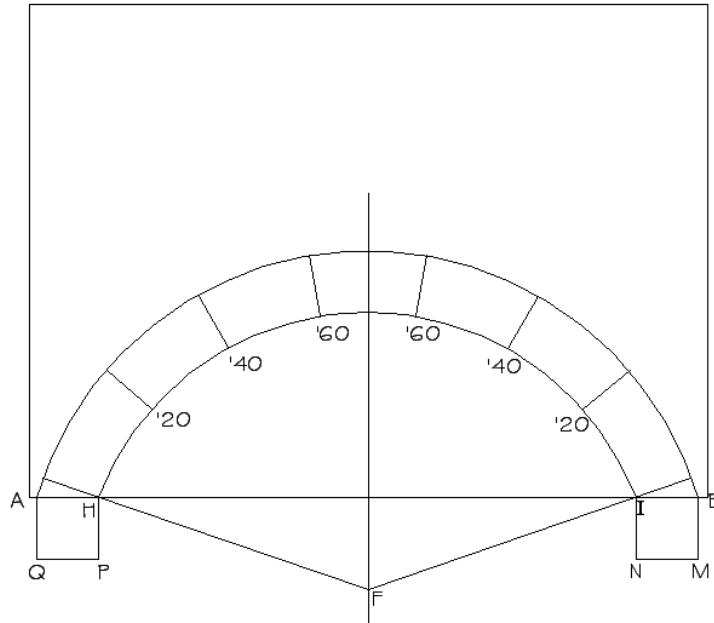
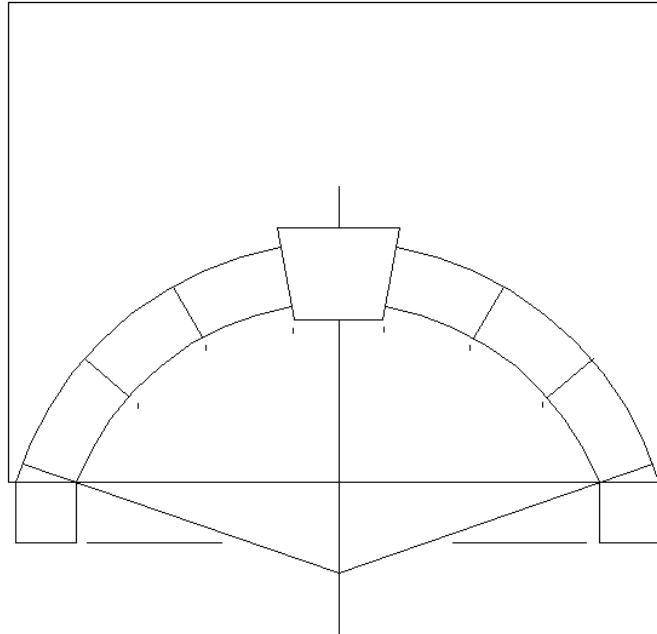

Figure 13.14a
Figure 13.14b
8. Such as it is, this arch isn’t very attractive or interesting. Furthermore, as the arch settles with time, its low, outward thrust would soon begin to crush the sharp end-tips which butt against the walls on both sides. And while the arch is high enough to walk under at its center, it is much too low along the sides. There is a simple solution for all these problems. By installing impost blocks in these areas, we could relieve that stress, and add considerable beauty, support, and height to our design. The impost blocks do not need to follow the same curvature of the arch, but may be two upright support piers on each side, with a slightly angled top to match the angle of the first voussoir which will rest upon it (**Figure 13.14a**).
9. Draw a line from center point F to H on the base line, and continue the line to the wall close to the one end of the outer arc. Another line from center-point F through I to the wall on the other side will result in two small triangles in these areas, which will become the tops of our two impost blocks. By extending the wall line downward somewhat below the base line (M), we can create an impost block of any practical height, as we have done in our figure. A parallel line of the same length from I to N will give us a full impost block, just as soon as we connect MN for the impost base. Do the same on the opposite impost, with extended lines AO and HP. But be careful not to make your impost blocks too high, or the crown of the arch may exceed the height of the room. A line drawn from O to M will give you the new floor of your room, so you can see the new shape of your arch.
10. Now, how can we determine the number and size of the voussoirs needed? The simplest process would be to resort to a protractor, set at F and lined up along line HF, which will determine the angle formed by HFI. Let's say the angle turns out to be 103 degrees. What odd number will most easily go into 103 degrees? Nine will go 12 times into that number very conveniently, but what do we do with the 4 degrees left over? Simple—we add these to the keystone. The keystone then takes 16 degrees of arc, 8 on each side of the perpendicular. Or, if the angle had been 95 degrees, we could still use nine voussoirs at 12 degrees of arc each, subtracting 4 degrees from the keystone. **Figure 13.14a**, as it turns out, has a 144 degree span, which allows us with the use of a protractor to install 7 voussoirs at 20 degrees each, with a keystone taking up the remainder at 24 degrees.
11. The number 144 is more perfectly divided by 9, which would produce all voussoirs and keystone of the very same arc: 16 degrees. Such a nine-unit arch is reproduced in **Figure 13.14b**. Chords drawn along the tops and bottoms of every
vousoir will square them off for easier cutting. Note in **Figure 13.14a** a “correction” on the right side to adjust the thickness of the voussoirs to match the size of the impost block, by sweeping out a new arc. This correction is further carried through in **Figure 13.14b**.